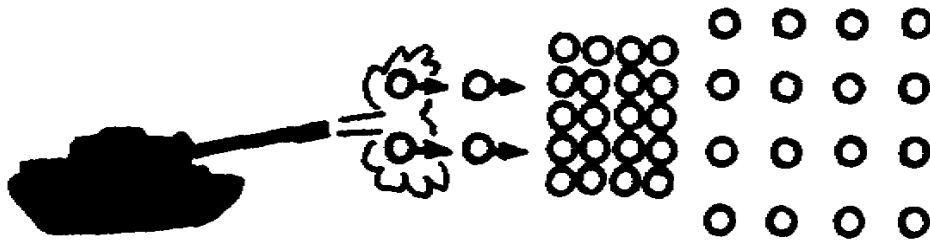

Figure 1-2. Compression
a. Any energy (disturbance) introduced into the medium causes the molecules closest to the disturbance (energy) to be pushed together. This we call compression (fig 1-2).